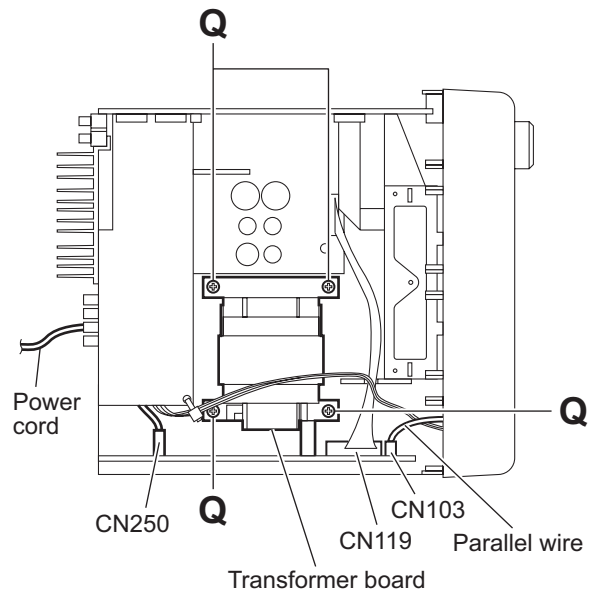

Fig.17
3.1.9 Removing the transformer board (See Fig.17)